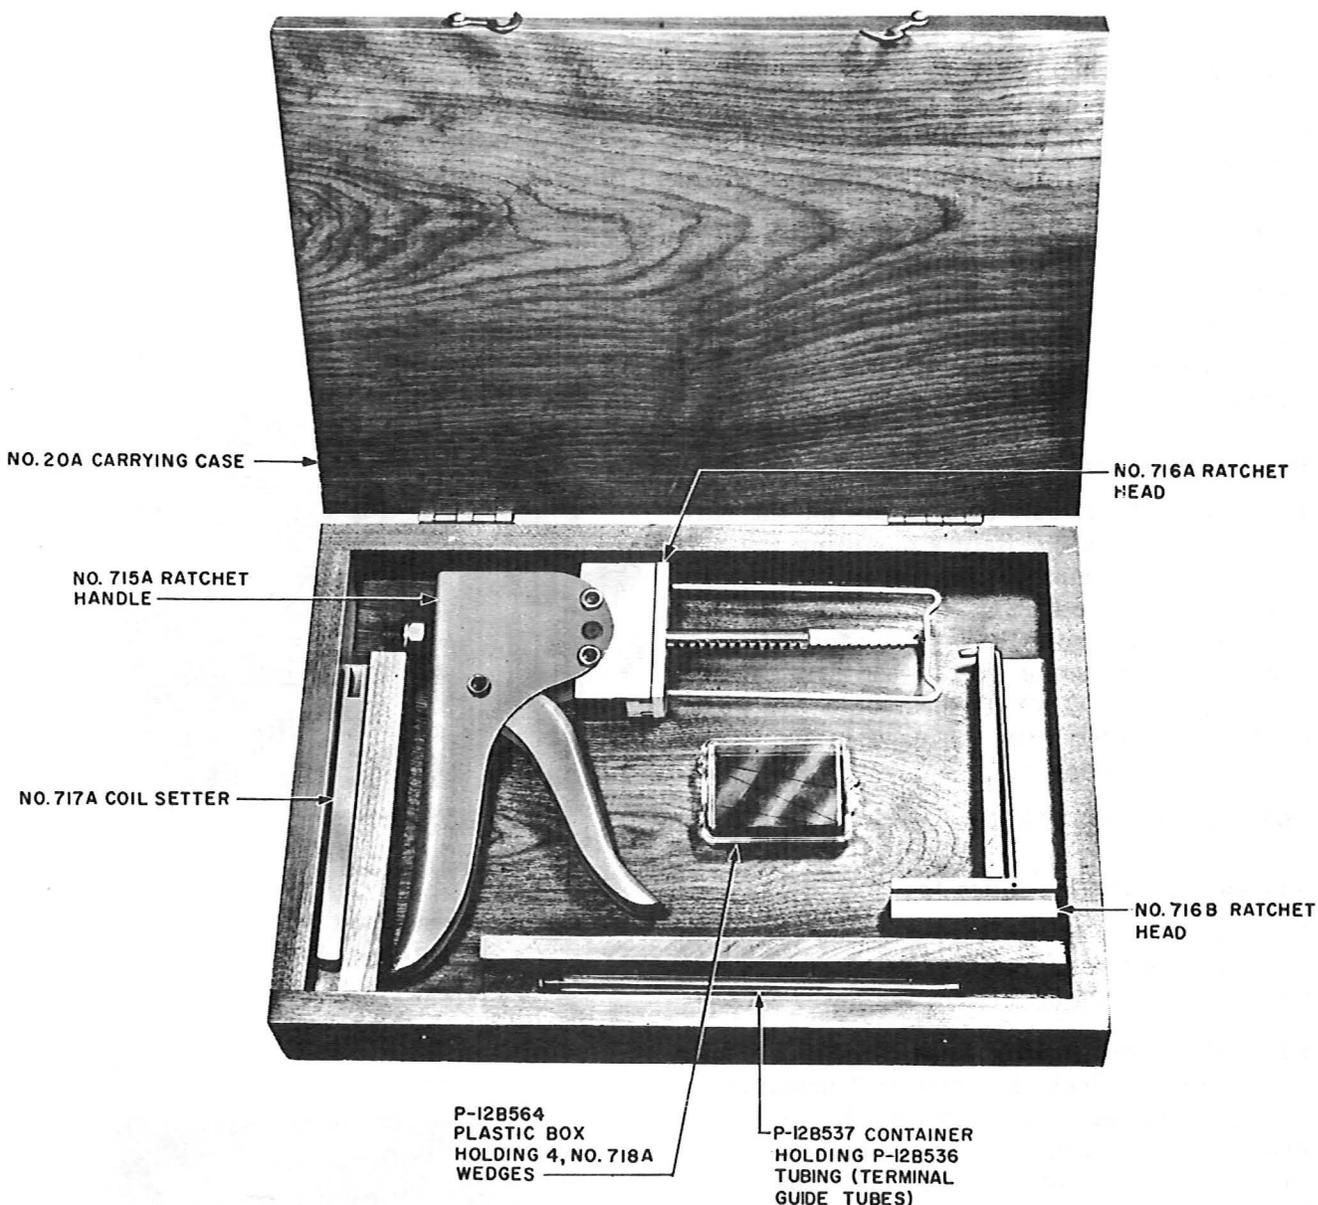

Fig. 2 - No. 1014A Tool Kit
3.02 Fig. 2 shows the tools comprising the No. 1014A tool kit used for replacing coils on wire-spring-type relays. The No. 716A ratchet head furnished with the tool kit is not required for AK-type relays. This ratchet head is used for AF-, AG-, and AJ-type relays. Prepare the ratchet handle and head for use as covered below.